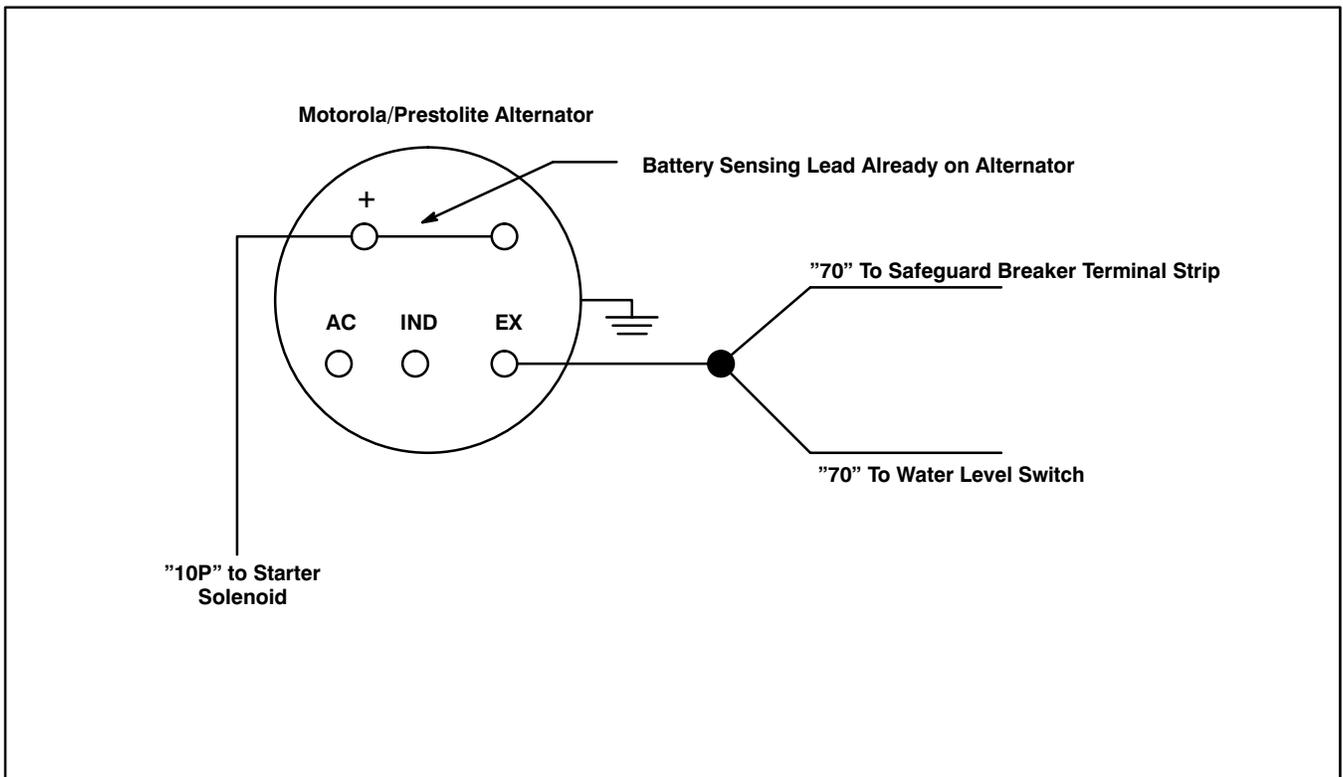

Figure 2. Wiring Harness Connections for Motorola/Prestolite Battery-Charging Alternator
3. Connect both "70" wires to a single 14 gauge eyelet terminal (X-282-3). Connect "70" eyelet terminal to alternator "EX" terminal as shown in Figure 2. Connect wiring harness "10P" lead to alternator "+" terminal.
5. Install engine wiring harness according to appropriate wiring diagram in generator service manual. (Refer to Figure 2 for connection of modified wiring harness to Motorola/Prestolite battery-charging alternator.)